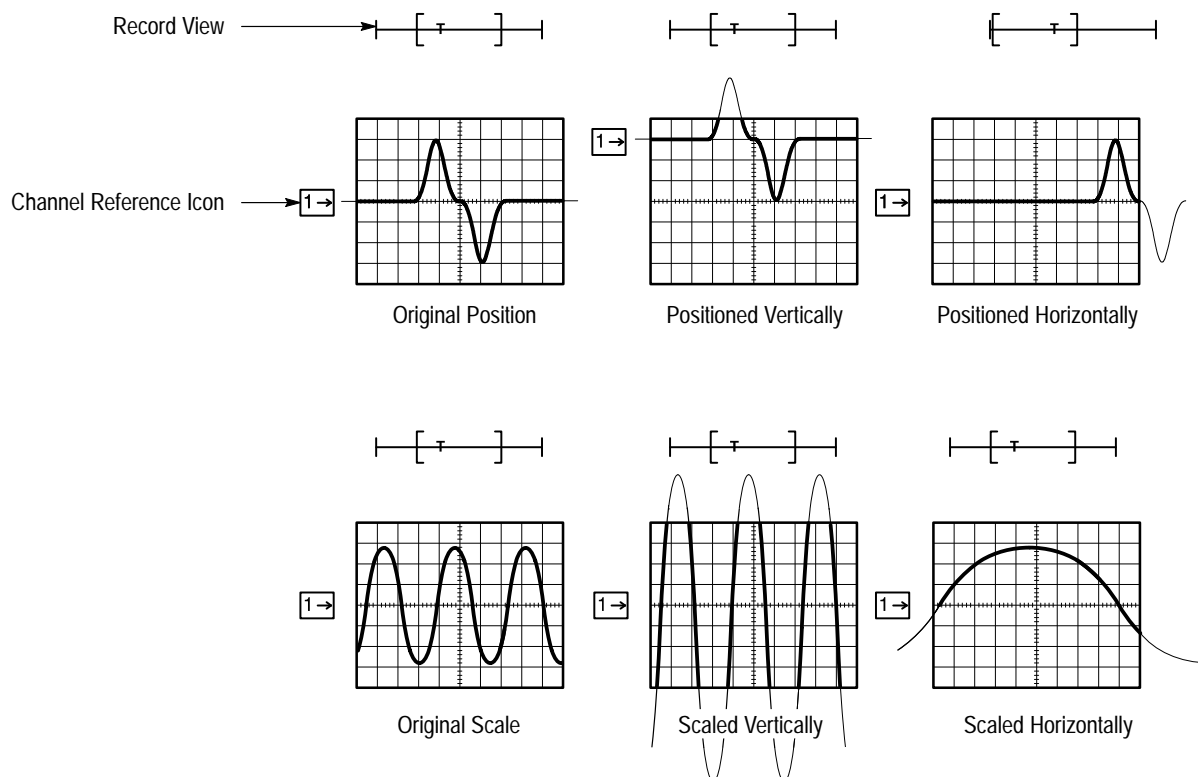

Figure 2–29: Scaling and Positioning
TDS 400A Digitizing Oscilloscopes allow you to scale (change the vertical or horizontal size) and position (move up, down, left, or right) waveforms on screen for best display. (Figure 2–29 shows the results of both vertical and horizontal scaling and positioning.) This section tells you how to quickly check and set vertical and horizontal scales, and positions.
**To Check Position** To quickly see the position of the waveform in the display, check the *channel reference indicator* and the *record view* icons (see Figure 2–29).